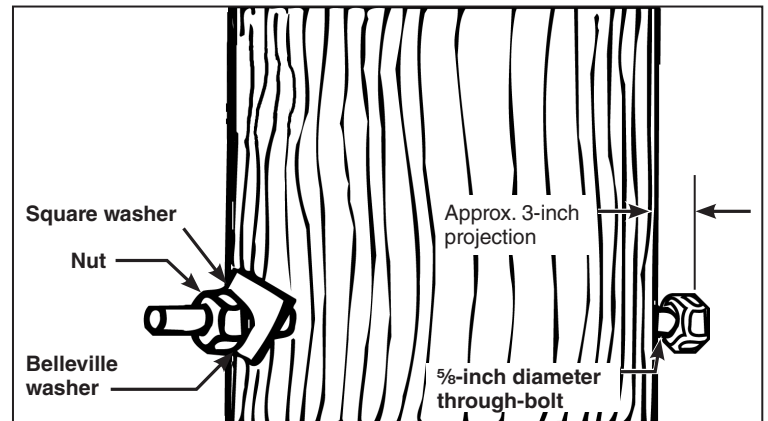

Figure 3. Install the through-bolts.
STEP 2. Insert a $\frac{5}{8}$ -inch diameter through-bolt (not furnished) into each hole. See Figure 3.